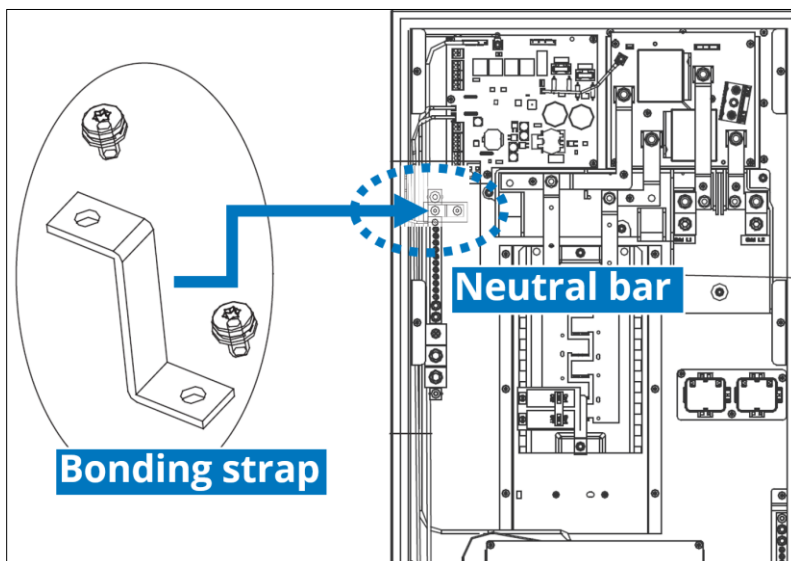

Figure 11: Location of bonding strap for main service panel
1. Using a T20 tool and M4 screws, install the bonding strap between the neutral bar and the back wall of the Hub (Figure 11). Torque the screws to 14 in-lb.